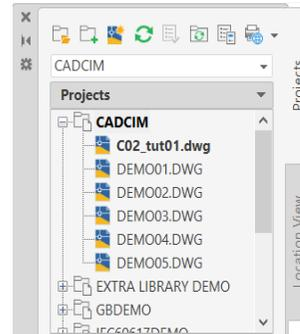

Figure 2-67 The **PROJECT MANAGER** displaying the **CADCIM** project with the drawings added to it
4. Choose the **Yes** button from this message box; the selected drawings are added to the **CADCIM** project, as shown in Figure 2-67.